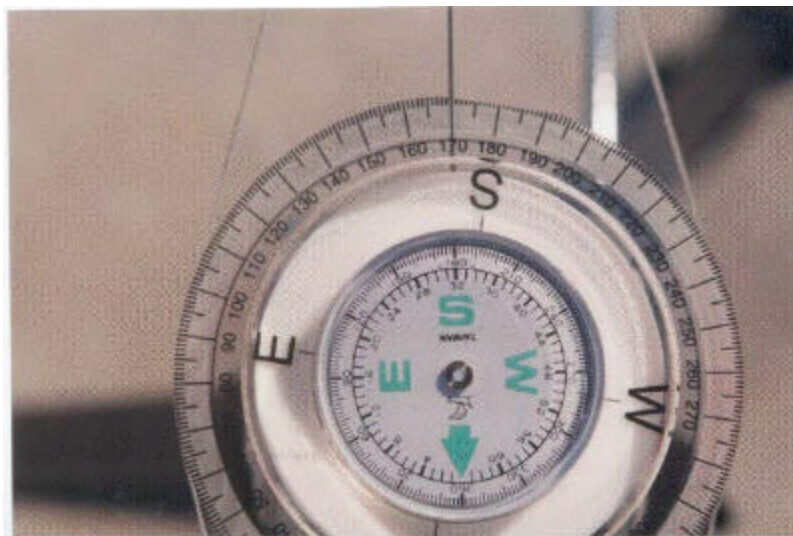

Fig. 7
- (8) Using the magnetic North variation information obtained in Step 2, turn the azimuth dial away from the compass alignment position the opposite direction the number of degrees given. For example: variation is 10 degrees East, therefore, rotate azimuth dial in the West direction 10 degrees to return to the true South coordinate. Photo in Fig. 7 shows this correction to true South alignment. The view lens remains constant at top of photo.